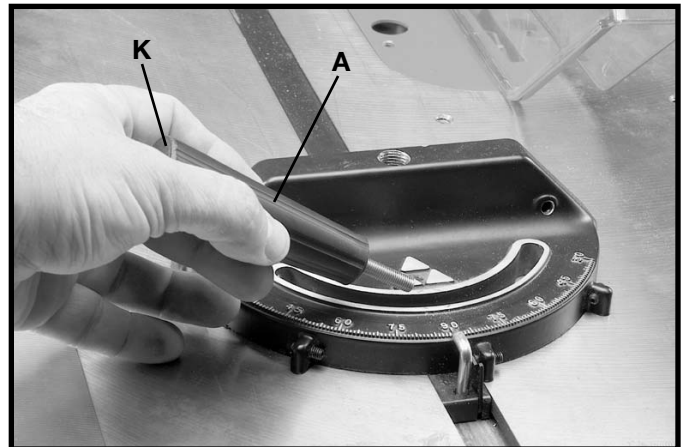

Fig. 102
1. Insert the miter gage bar into the miter gage slot and assemble the washer and lock handle (A) Fig. 102, to the miter gage bar. Insert cap (K) into top of handle (A).